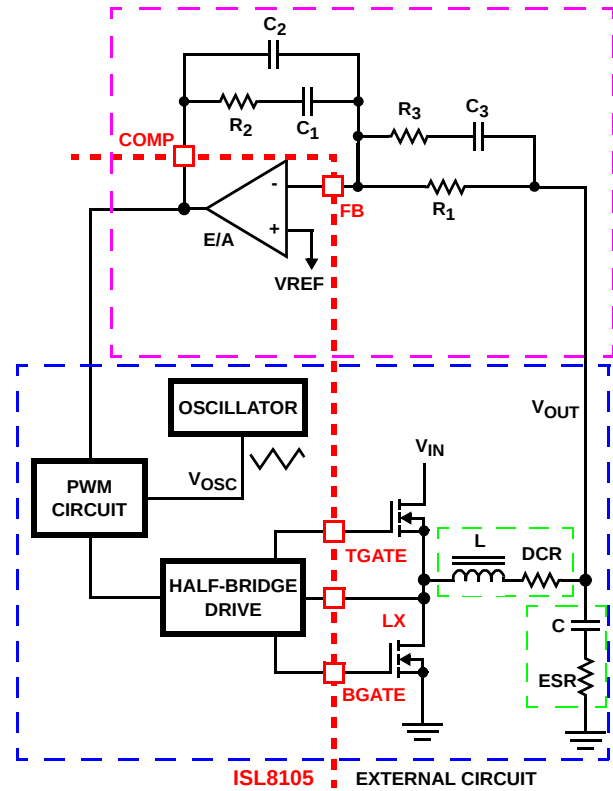

FIGURE 9. VOLTAGE-MODE BUCK CONVERTER COMPENSATION DESIGN
This section highlights the design considerations for a voltage-mode controller requiring external compensation. To address a broad range of applications, a type-3 feedback network is recommended (see Figure 9).
Figure 9 highlights the voltage-mode control loop for a synchronous-rectified buck converter, applicable to the ISL8105 circuit. The output voltage (V_{OUT}) is regulated to the reference voltage, V_{REF} , level. The error amplifier output (COMP pin voltage) is compared with the oscillator (OSC) triangle wave to provide a pulse-width modulated wave with an amplitude of V_{IN} at the LX node. The PWM wave is smoothed by the output filter (L and C). The output filter capacitor bank's equivalent series resistance is represented by the series resistor ESR.
Equations 5 through 8 that relate the compensation network's poles, zeros and gain to the components (R_1 , R_2 , R_3 , C_1 , C_2 , and C_3) in Figure 9. Use the following guidelines for locating the poles and zeros of the compensation network:
1. Select a value for R_1 (1k Ω to 10k Ω , typically). Calculate value for R_2 for desired converter bandwidth (F_0). If setting the output voltage to be equal to the reference set voltage as shown in Figure 9, the design procedure can be followed as presented in Equation 5.